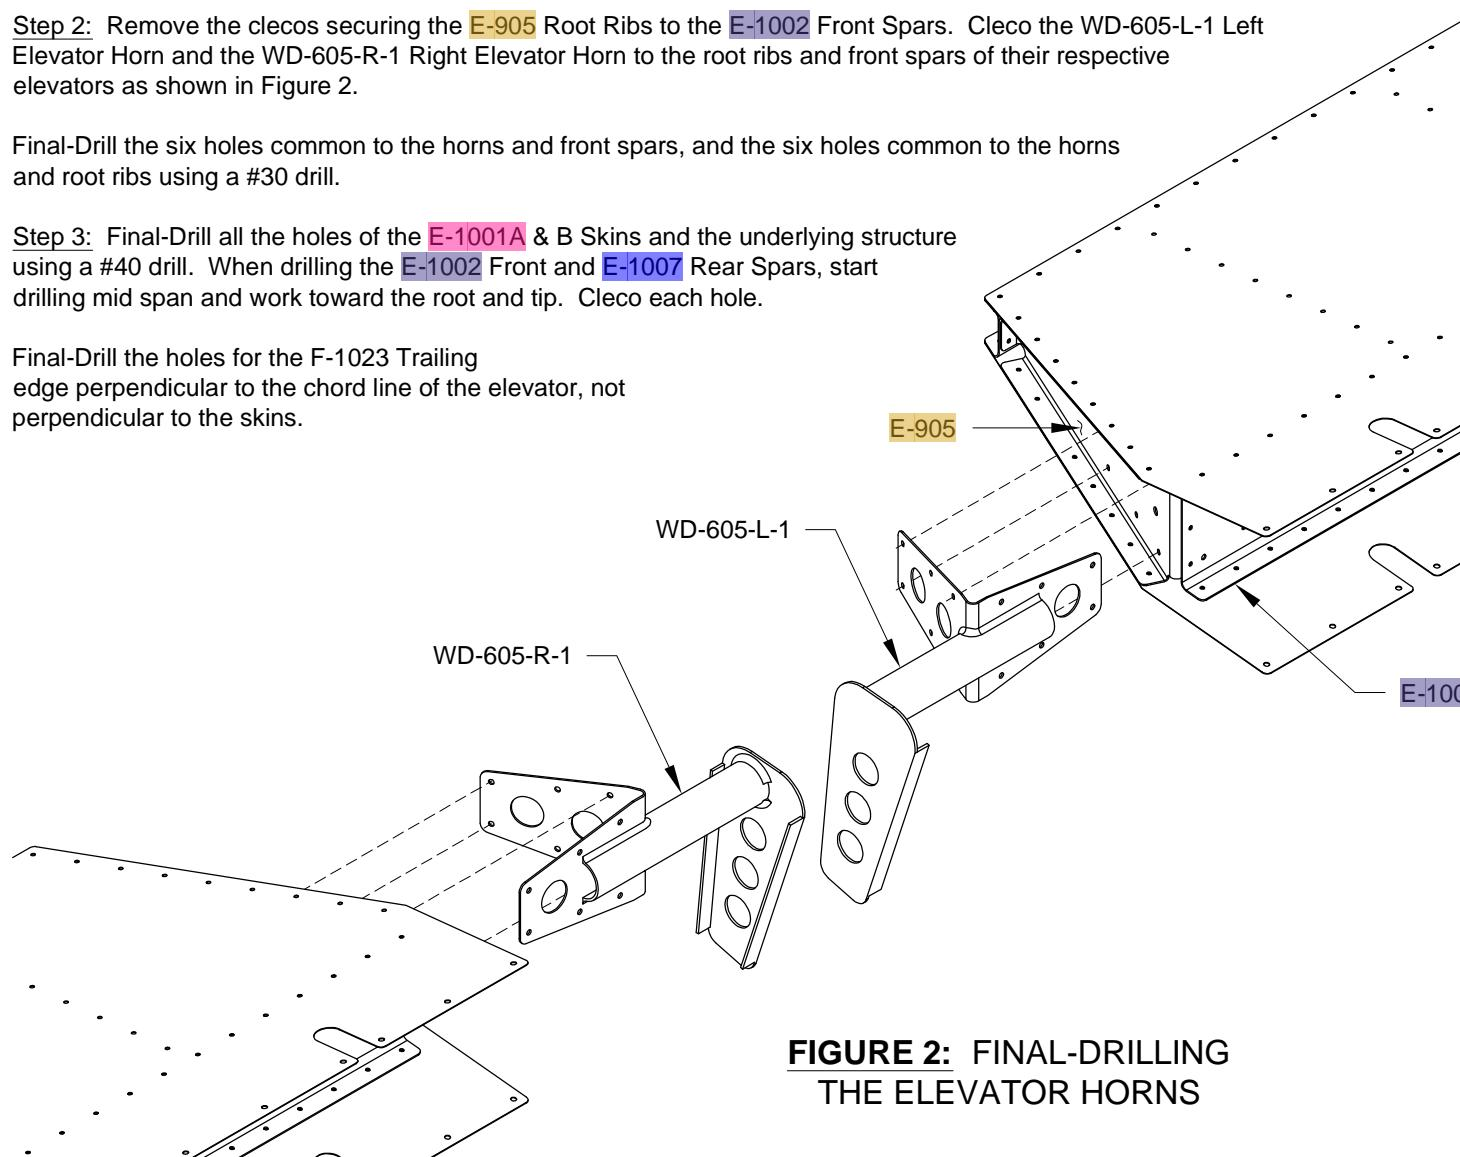

FIGURE 2: FINAL-DRILLING THE ELEVATOR HORNS
Step 2: Remove the clecos securing the E-905 Root Ribs to the E-1002 Front Spars. Cleco the WD-605-L-1 Left Elevator Horn and the WD-605-R-1 Right Elevator Horn to the root ribs and front spars of their respective elevators as shown in Figure 2.